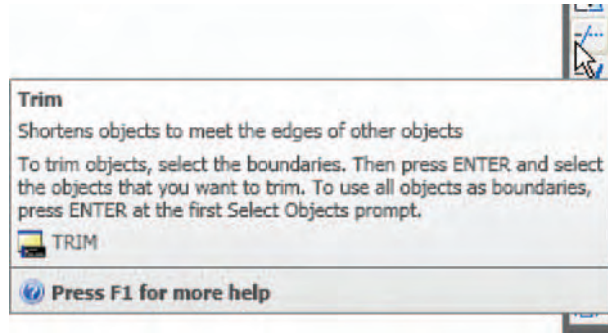

Fig. 5.30 The **Trim** tool icon from the **Modify** toolbar in the **AutoCAD Classic** workspace
2. Call **Trim** – *left-click* its tool icon in the **Home/Modify** panel, *pick* its tool icon in the **Modify** toolbar Fig. 5.30), *pick* **Trim** from the **Modify** drop-down menu, or *enter* **tr** or **trim** at the command line, which then shows: